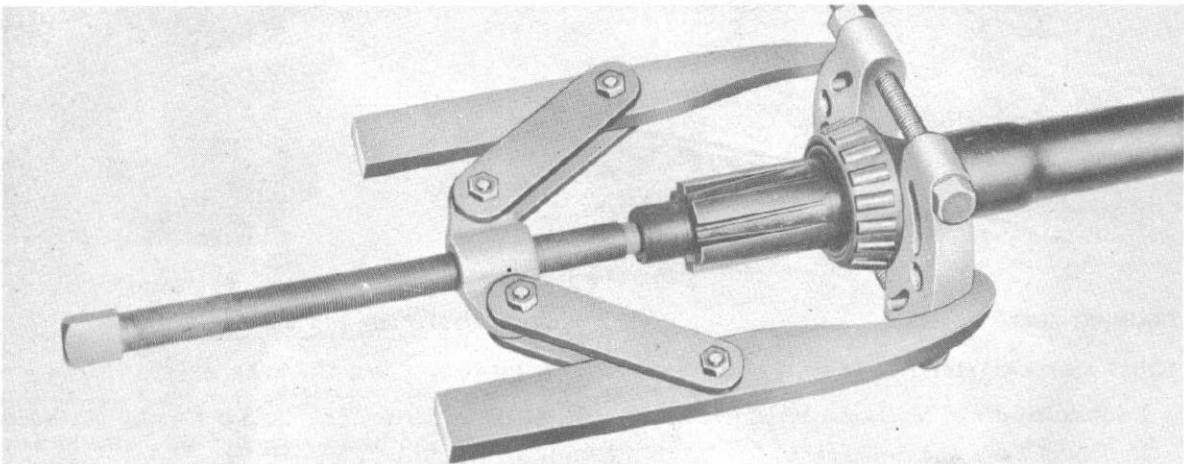

Fig. 3
Step 1—Remove the bearing as shown in Figure 3.